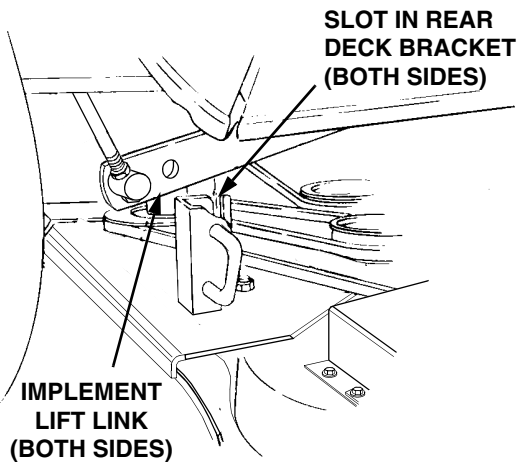

Figure 2-3
4. Raise the tractor implement lift handle to its highest setting and slide the deck under the tractor. Make sure the slot in each rear deck bracket aligns with the implement lift link on each side of the tractor (See Figure 2-3).